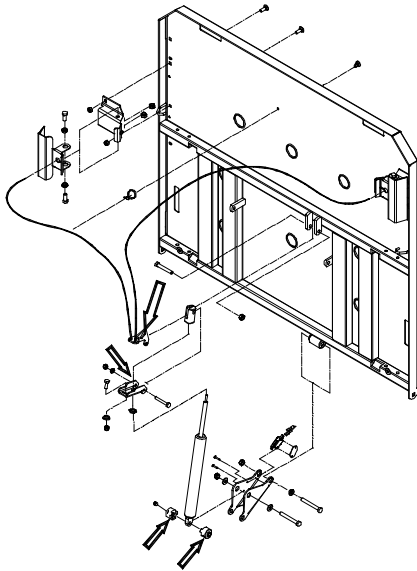

Figure 2.2D
- \_\_\_ The damper spacer sleeves and the fixed and mobile levers (see fig. 2.2D, page 12) from the instant CPR release mechanism.